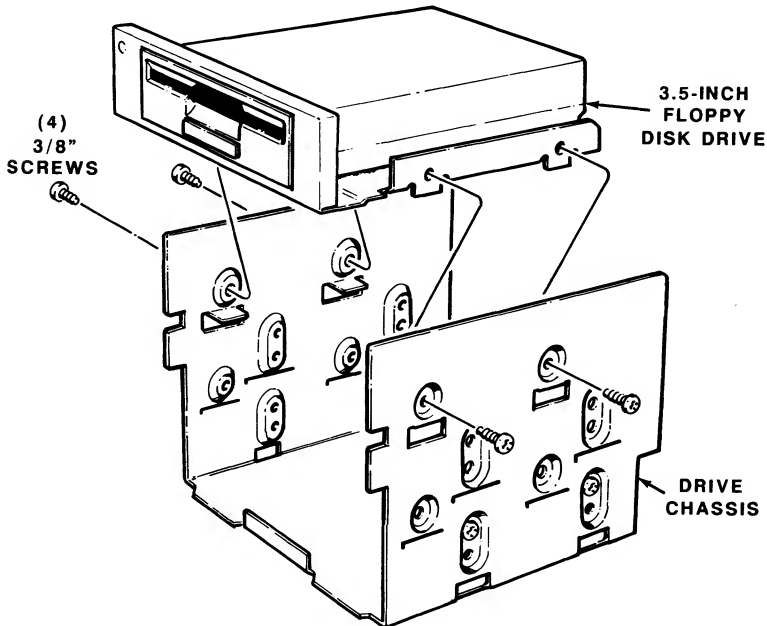

Figure 5-10. Installing the Drive Into the Drive Chassis
- Secure the drive to the chassis using four 6-32 x 3/8" screws, as shown in Figure 5-10.